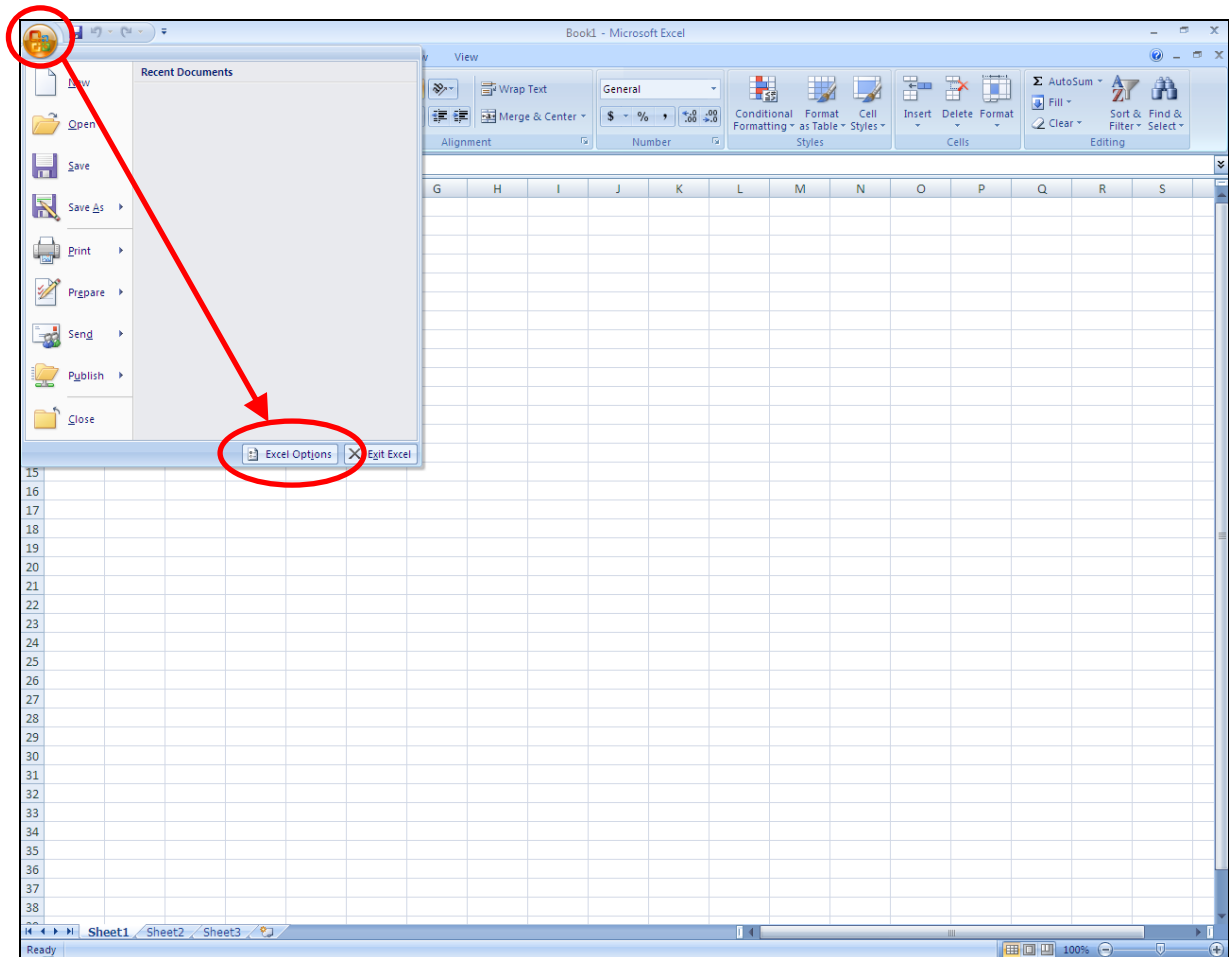

Figure 2.6: Registering FluidEXL^{Graphics} as Add-In in Excel[®] 2007
- Click on the "Excel Options" button in the menu which appears (see Figure 2.6)